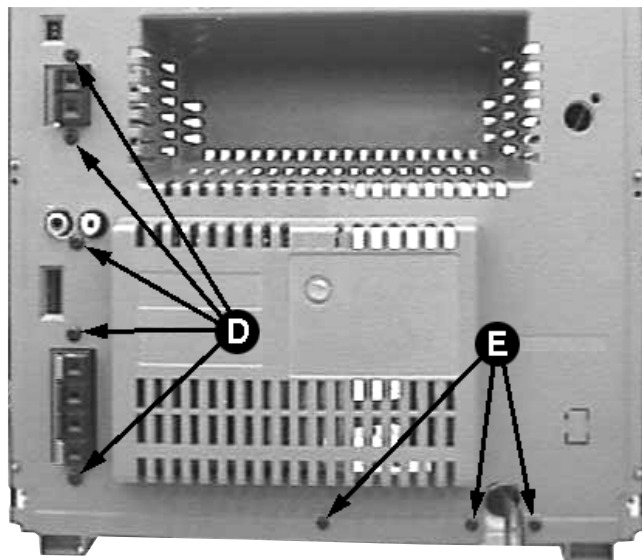

Figure 9
- 1) Loosen 5 screws D mounting the Combi board to the Rear Panel (pos 254) as shown in figure 9.
- 2) Loosen 3 screws E and release the 2 catches on the sides of the Rear Panel to separate it from the Bottom plate (pos 227).